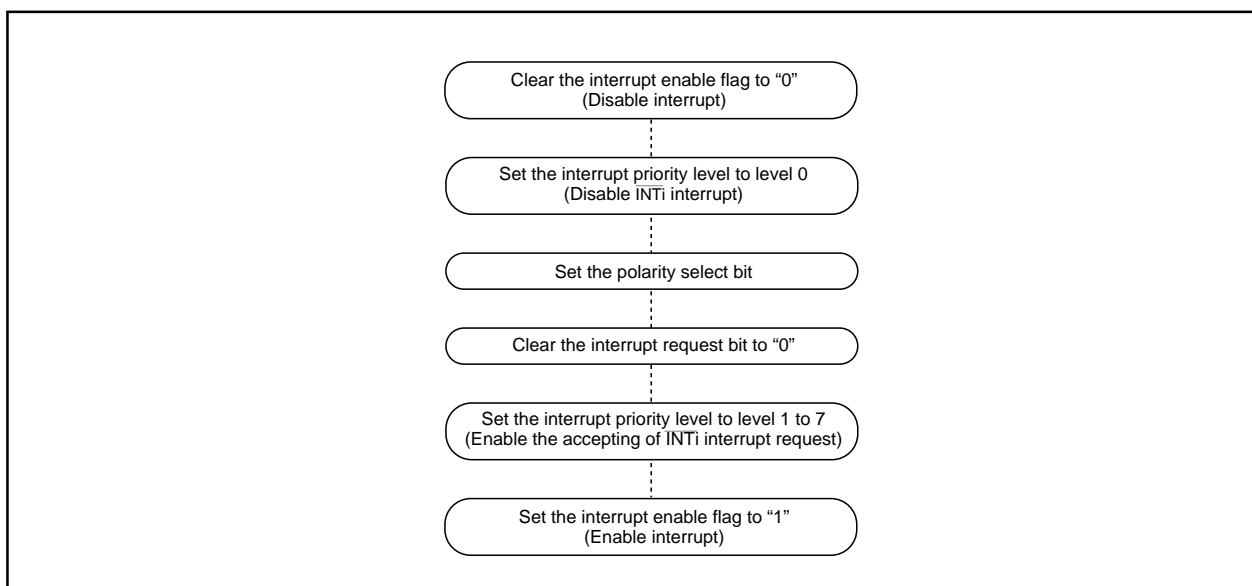

Figure DD-13. Switching condition of $\overline{\text{INT}}$ interrupt request
(2) Setting the stack pointer
(3) External interrupt
- When the polarity of the $\overline{\text{INT}}_0$ through $\overline{\text{INT}}_5$ pins is changed, the interrupt request bit is sometimes set to "1". After changing the polarity, set the interrupt request bit to "0". Figure DD-13 shows the procedure for changing the $\overline{\text{INT}}$ interrupt generate factor.